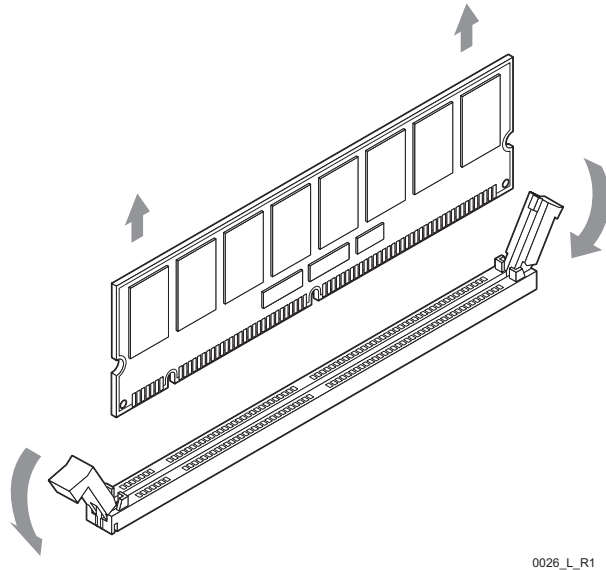

Figure 13-3. Releasing a Control Cache DIMM
- 14 Release the control cache DIMM by pressing outward on the two tabs on the sides of the DIMM, as shown in Figure 13-3.